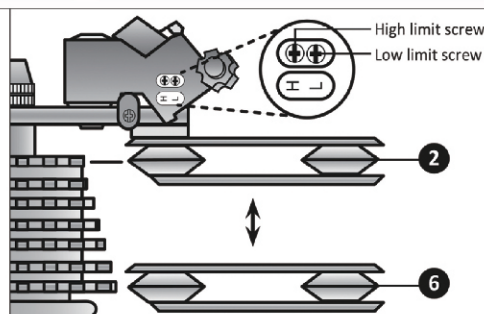

Figure 14.2
- ② Adjust the high limit screw (H) so the guide pulley and the smallest sprocket are lined up. Figure 14.2
- ③ Reconnect the cable, pull out any slack, and retighten the anchor bolt securely.
- ④ Shift through the gears, making sure each gear achieved is done quietly and without hesitation. If necessary, use the barrel adjuster to fine tune each gear by turning it in the direction you want the chain to go. For example, turning clockwise will loosen the cable tension and move the chain away from the wheel, while turning counter-clockwise will tighten cable tension and direct the chain towards the wheel.
- ⑤ Shift the rear shifter to the gear one and place the chain on the largest cog.
- ⑥ Adjust the low limit screw (L) in quarter turn increments until the guide pulley and the largest cog are aligned vertically.
- ⑦ Again, shift through each gear several times, checking that each gear is achieved smoothly. It may take several attempts before the rear derailleur and cable is adjusted properly in increments until the guide pulley and the largest cog are aligned vertically.